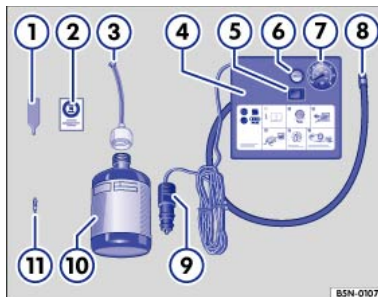

Fig. 249 The breakdown set.
The breakdown set is located underneath the floor covering in the luggage compartment. It includes the following components ⇒ Fig. 249 :
- Use the valve core extractor ⇒ Fig. 249 ① to screw the valve core out of the tyre valve. Place the core on a clean surface.
- Shake the tyre filler bottle ⇒ Fig. 249 ⑩ vigorously up and down several times.
- Screw the filler hose ⇒ Fig. 249 ③ tightly onto the tyre filler bottle in a clockwise direction. The plastic foil on the plug is pierced automatically.
- Remove the plug from the filler hose ⇒ Fig. 249 ② and place the open end fully on the tyre valve.
- Use the valve core extractor ⇒ Fig. 249 ① to screw the valve core back onto the tyre valve.
- Screw the tyre filler hose ⇒ Fig. 249 ⑧ of the air compressor tightly onto the tyre valve.
- Check that the bleed screw ⇒ Fig. 249 ④ is closed.
- Insert the 12-volt plug ⇒ Fig. 249 ② into one of the vehicle's 12-volt sockets ⇒ *Electrical sockets*.
- Use the on/off switch ⇒ Fig. 249 ⑤ to switch on the air compressor.
Reconnect the tyre filler hose ⇒ Fig. 249 ⑧ and read off the tyre pressure on the tyre pressure display ⑦.